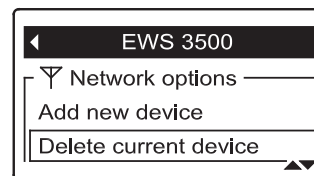

FIG. 130
3. Press the DOWN (▼) button to scroll through the menu options until **Delete current device** is highlighted in a box (See Figure 130).